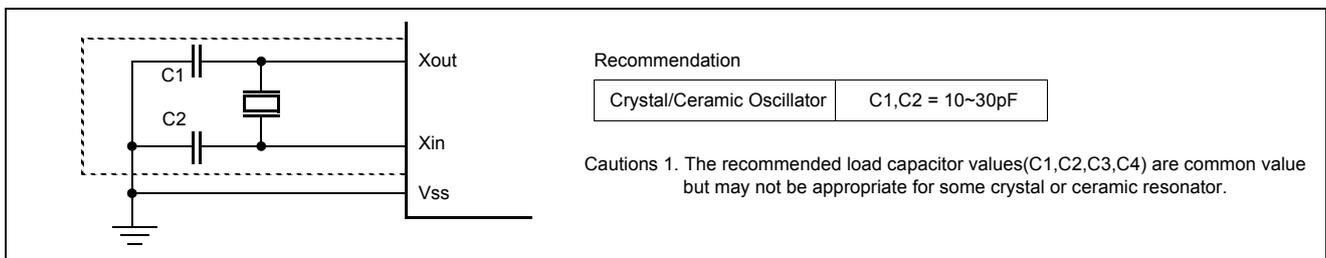

Figure 10-2 Oscillator Connections
shown in Figure 10-2 .
**Note:** When using a system clock oscillator, carry out wiring in the broken line area in Figure 10-2 to prevent any effects from wir-